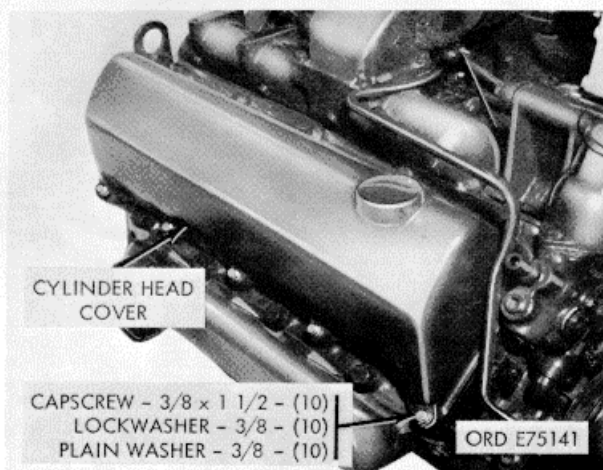

Figure 2-12. Cylinder head covers-removal/installation.
*a. Cylinder Head Covers* (fig. 2-12).